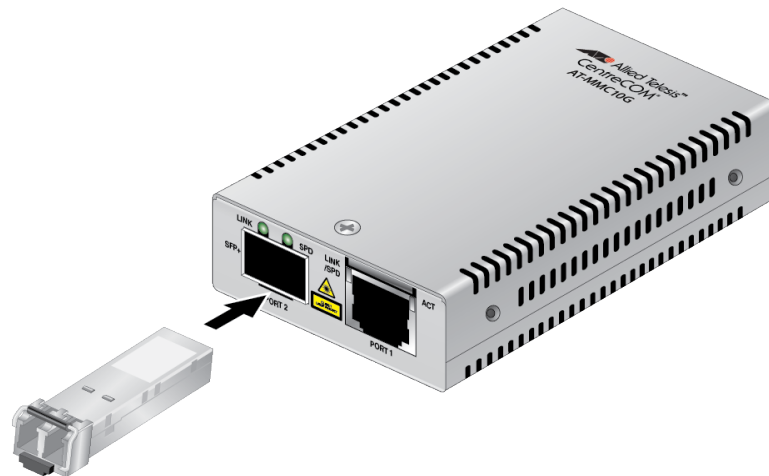

Figure 35. Inserting the SFP
2. Position the SFP transceiver with the label facing up. Slide the transceiver into the SFP port until it clicks into place. See Figure 35.